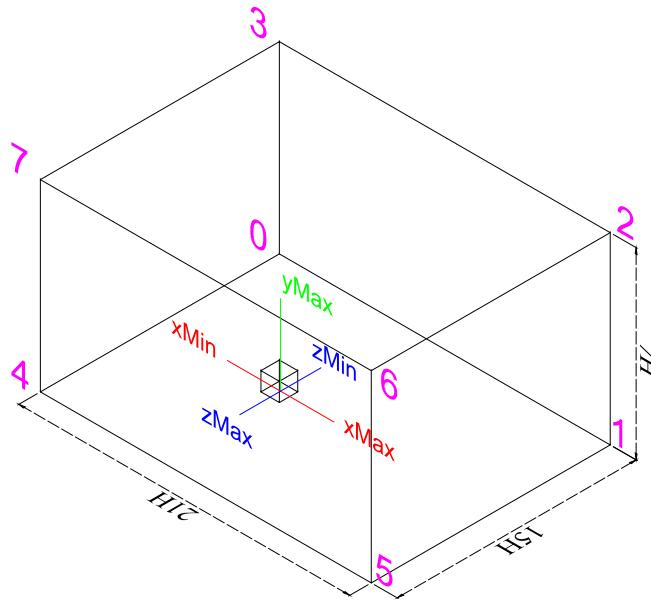

Figure 5.1: Uni-block Background Mesh sketch.
2. Modify the “blockMeshDict” file, located in sub-folder “system”, according to Figure 5.1 and specifying desired patches to bound-